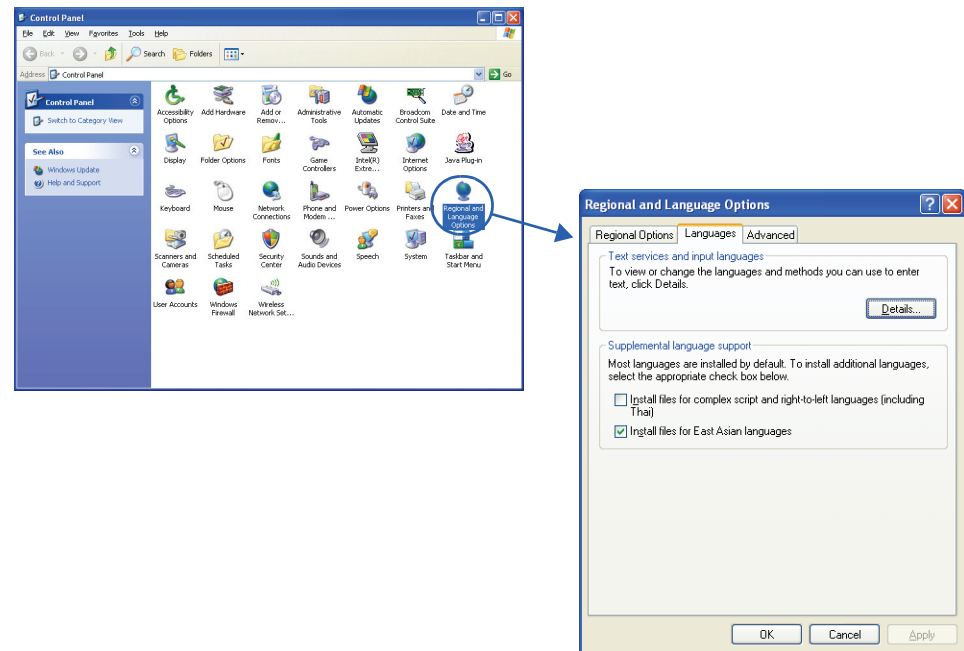

Figure 4.26. Opening the Regional and Language Options dialog box
2. Open the Windows Control Panel. Double-click the **Regional and Language Options** icon to open the Regional and Language Options dialog box (Figure 4.26).
3. Click the **Language** tab. Select **Install files for East Asian languages** if these files are not already installed (Figure 4.26).